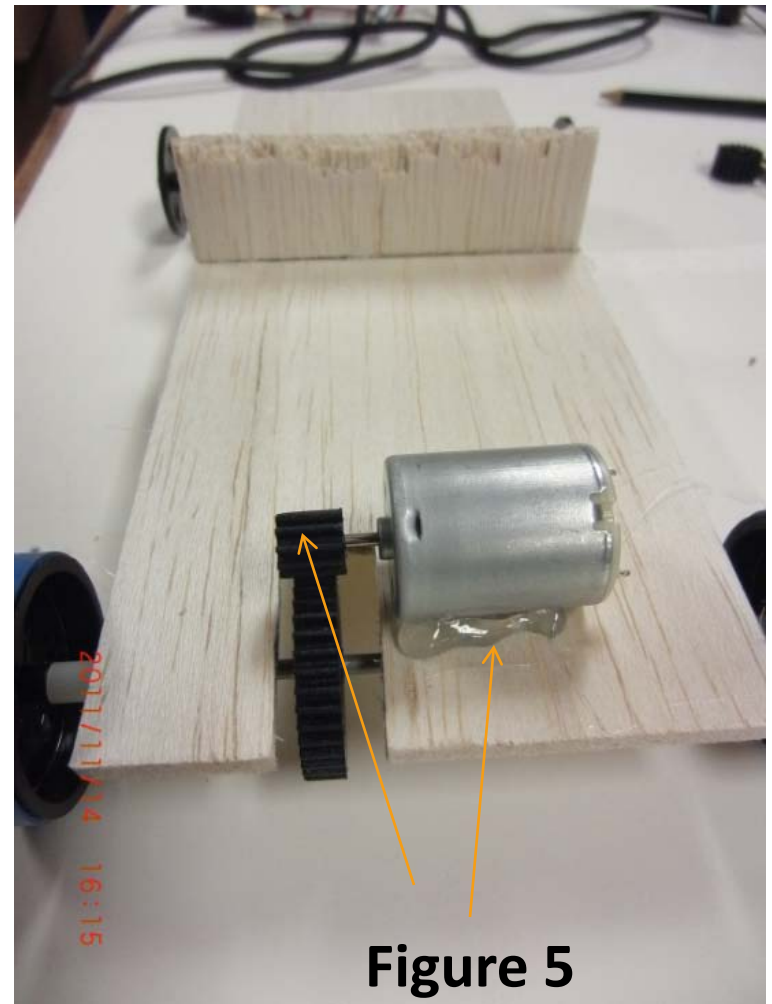

Figure 5
6. While the glue is still liquid, place the motor on its side (with vent holes up). Gear F sits directly on top of and engages Gear I (Figure 5). Be sure not to obstruct or fill the vent holes with glue.